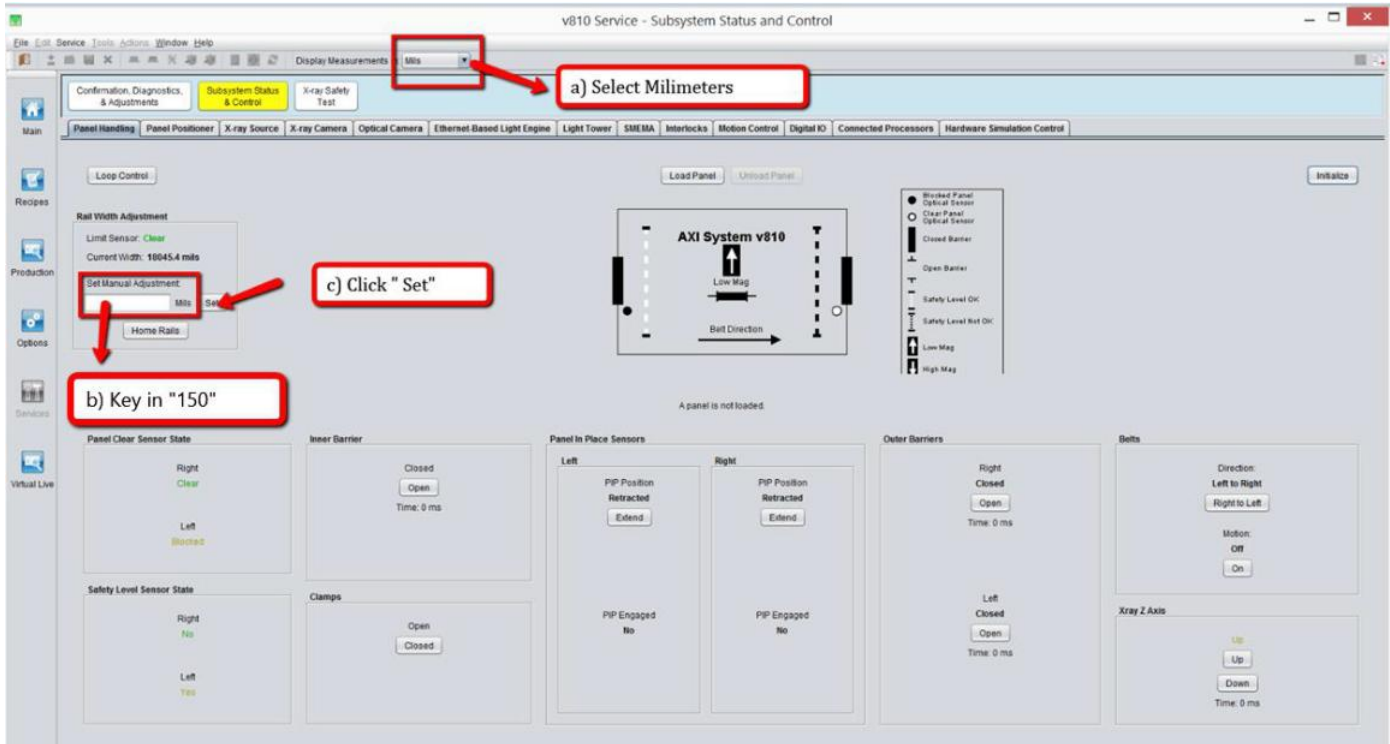

Figure 1 Panel Handling Interface
2. Set the Display Measurement to millimeters as below Figure 1
3. Go to the Set Manual Adjustment as key in 150 and click “Set” as below Figure 1.